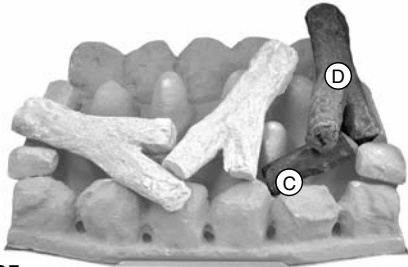

Fig. 35
6. Place the next logs on the coal bed, again ensuring they are placed in alphabetical order (Fig. 35).